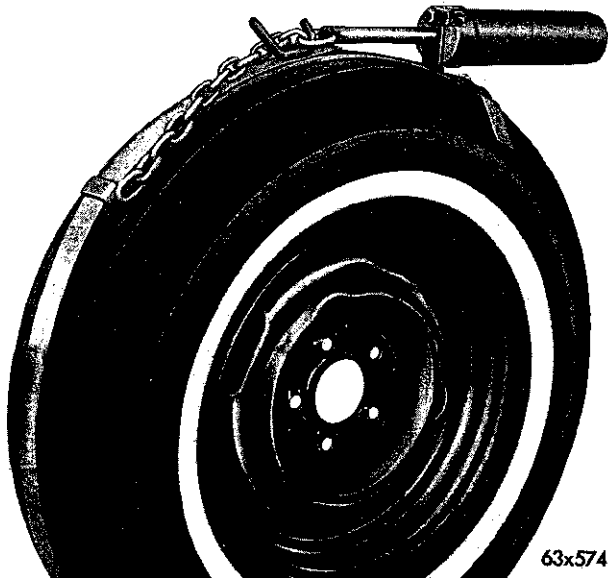
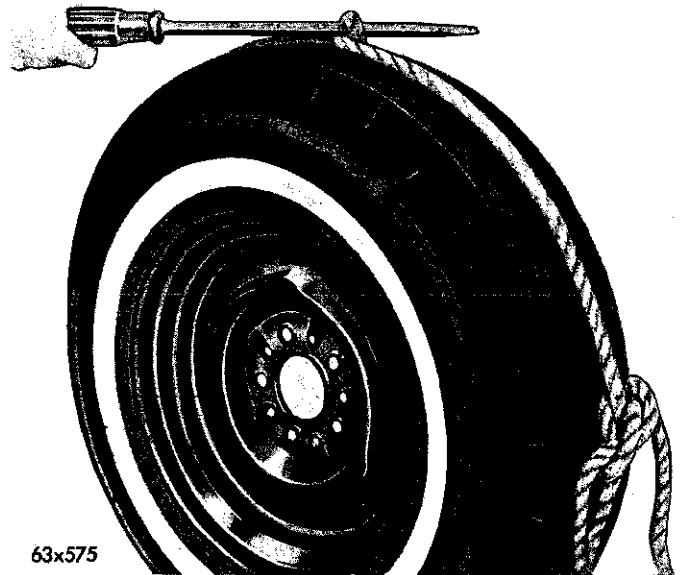

Fig. 5—Expanding Tire Beads (Mechanical Load)
Fig. 6—Expanding Tire Beads (Rope Tourniquet)
(1) Apply a mild soap and water solution to both tire beads.
(2) Place one bead over the rim of the wheel, working the entire bead into the low section of the rim.
(3) Place the other bead over the wheel rim and work the entire bead into the low section of the rim.
(4) While applying air through the valve stem, strike the tread sharply with a rubber hammer to force both beads outward over the raised rim section. It may be necessary to use bead expander Tool C-3440 (Fig. 5) or a rope tourniquet (Fig. 6).
(5) When both tire beads are fully seated, install the valve core and inflate the tire to the recommended pressure.